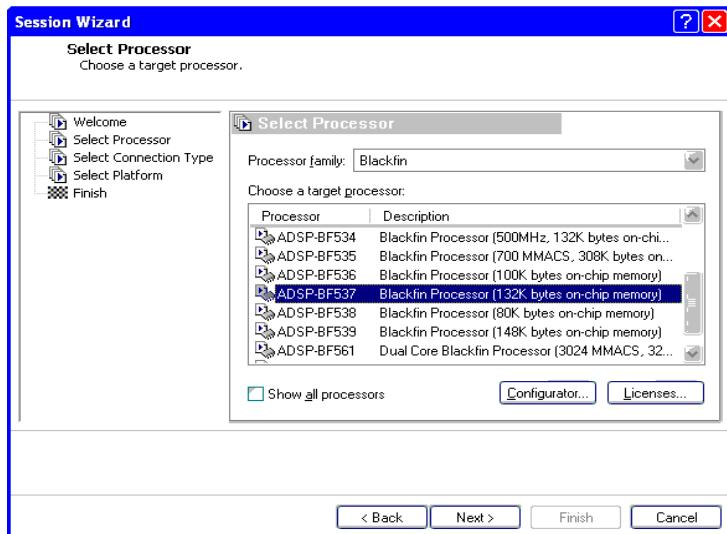

Figure 1-2. Session Wizard
1. From VisualDSP++' Session menu, select **New Session**, which launches the **Session Wizard** (Figure 1-2).